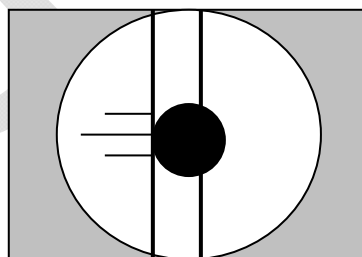

Figure 12 Move the left thin line to the left end of the indentation
3. Measurement: Move the microwire of the micrometer eyepiece to the left to position the drum so that the line on the left just snaps to the left end of the indentation diameter and is perpendicular to it, see Figure 12. This will move both lines together.